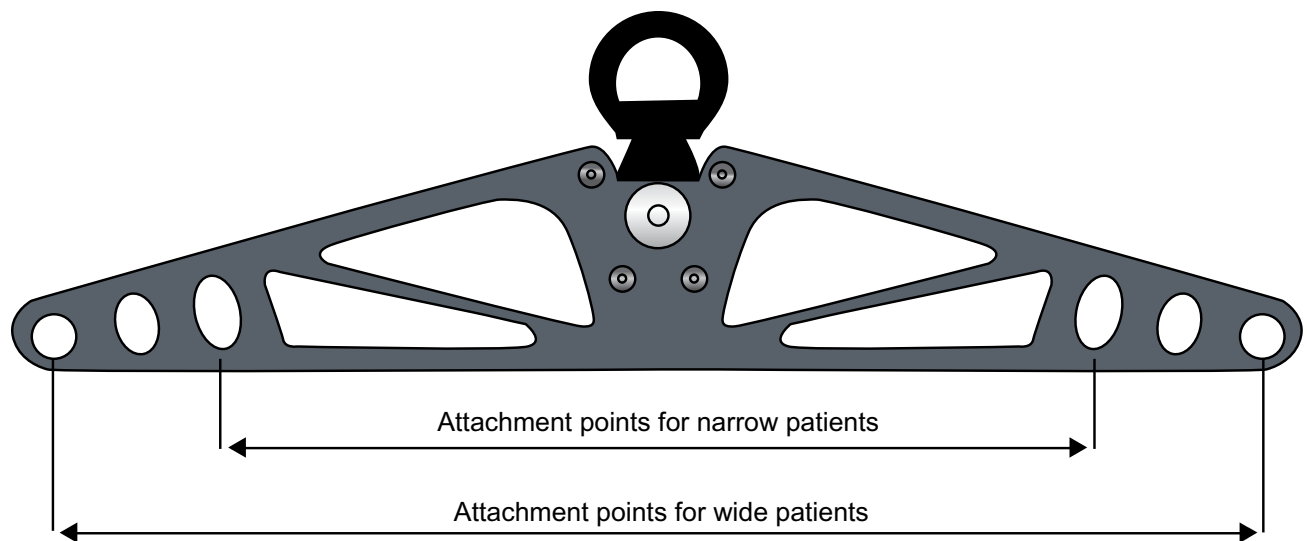

Figure 3-2: Spreader Bar Attachment Points
1. The Spreader Bar provides three attachment points to attach a patient harness. The selection of the attachment point depends on the width of the patient. Connect the carabiner that is attached to the rope pulley to the outermost attachment points for wide patients, and to the innermost points for narrow patients. See Figure 3-2.